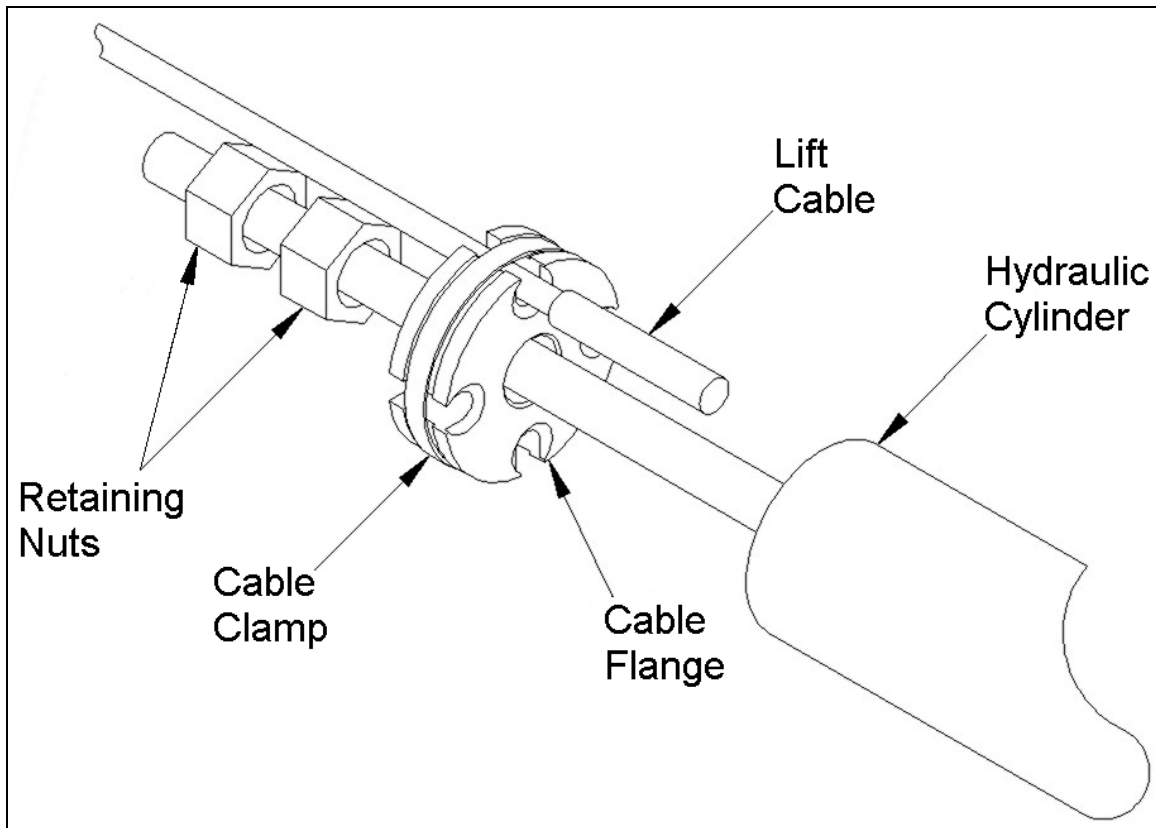

Figure 8. Cable Installation at Flange
- Remove the clamp from the cable flange. Ensure that the cable flange is installed with the counterbores facing towards the hydraulic cylinder as shown in Figure 8.
- Tighten the hose clamp on the cable flange to secure all the cables. Ensure that the two retaining nuts are positioned as shown in Figure 8. Using two wrenches, lock the retaining nuts against each other.